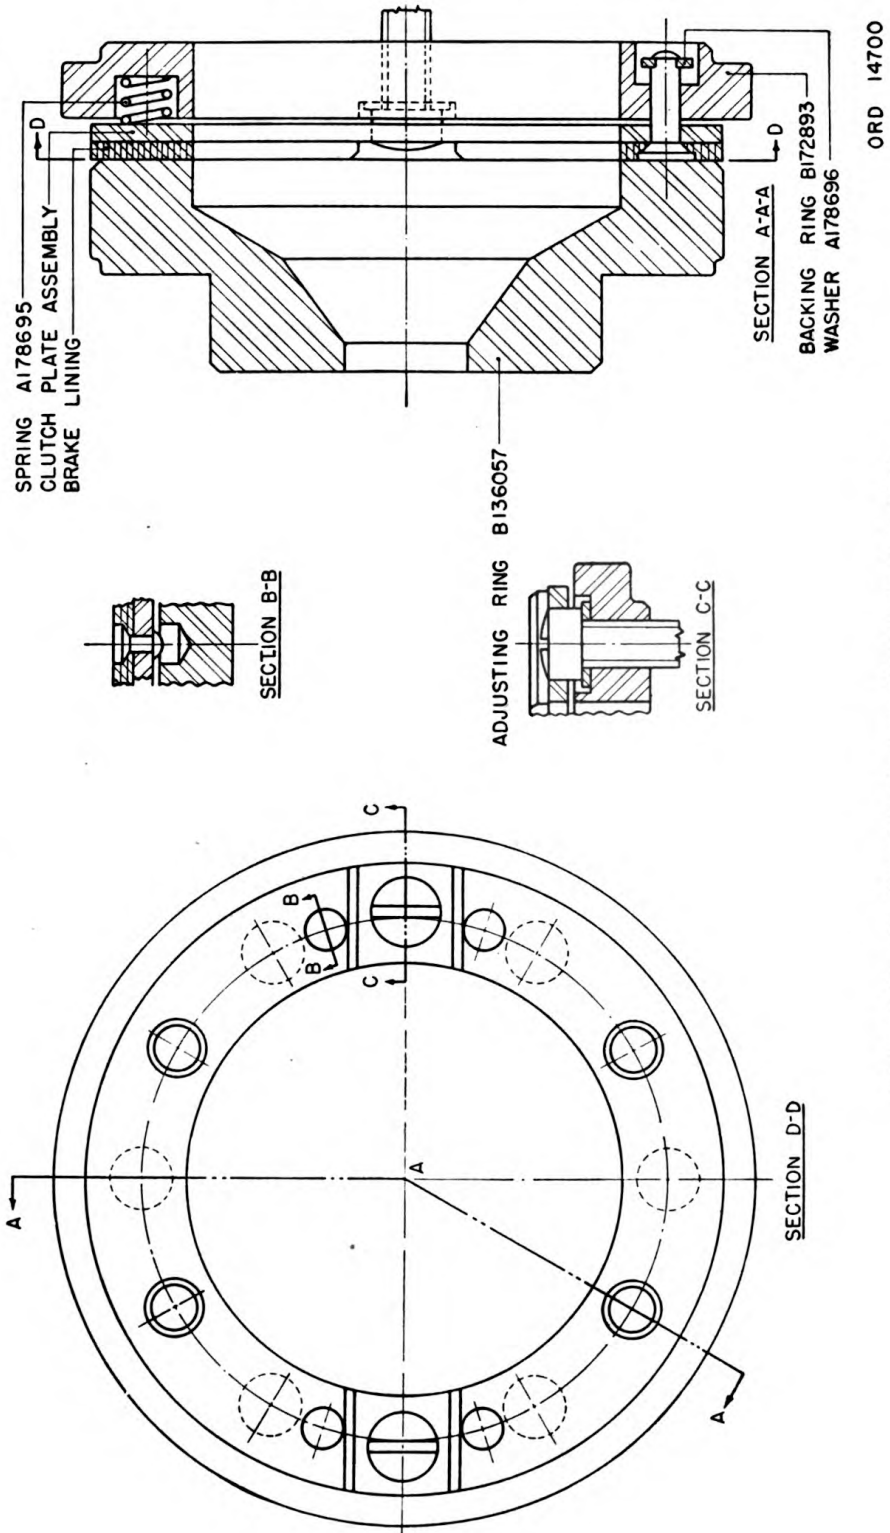

FIGURE 5 1/2.—Braking rings for use with dummy fuze, M42.
(2) For use with different types of fuzes, separate scales, setting rings, and adjusting rings are furnished. Figures 11 and 12 show the adjusting and setting rings for the 21-second aircraft time fuze Mk. IIIA1 and the 30-second mechanical time fuze, M43, respectively. For use with dummy fuze, M42, which has no engaging pawls, an adjusting ring and brake ring assembly (fig. 5½) are provided. The function of the brake ring is to impose a drag on the setting crank comparable to that caused by the engaging pawls of the service rounds. The elimination of the pawls and fuze rings for dummy practice without the addition of the braking device would allow rotation of the operating crank with relatively no resistance. Too rapid motion of the operating crank permits the stopping pawl (B135294, fig. 8, sec. D-D) to drop off the cam surface of the socket with such force that dents are made on the undercut bearing surface of the socket (C69685). Too rapid motion also results in severe wear and upsetting from pounding of the rebound pawl (A43836) on the cam stop surface. This upsetting has resulted in errors up to 1/10 second of fuze setting. Damage to the chamfered slot on the gear (C69696) results when the roller of the stopping pawl strikes the slot rapidly. From figure 5½ it can be seen that the braking mechanism consists of a brake-lined clutch plate assembly on the brake ring assembly which is held against the adjusting ring by springs giving the required friction drag.
(3) An accessory chest is provided for carrying the rings, scales, and spare electric lamps. The scale which is carried in the chest should be wrapped in soft tissue when packing.
(4) For use in darkness * * * with luminous paint.